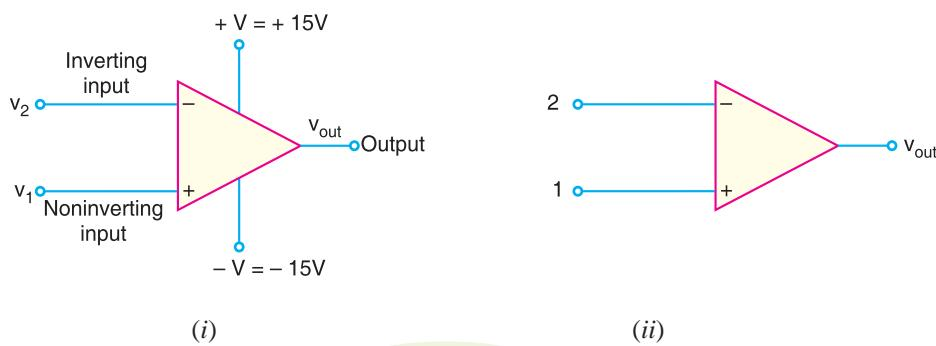

Fig. 25.39
- (iv) For the sake of *simplicity, + V and - V terminals are often omitted from the symbol as shown in Fig. 25.39(ii). The two input leads are always shown on the symbol regardless of whether they are both used.
- (vi) The OP-amp is produced as an integrated circuit (IC). Because of the complexity of the internal circuitry of an OP-amp, the OP-amp symbol is used exclusively in circuit diagrams.